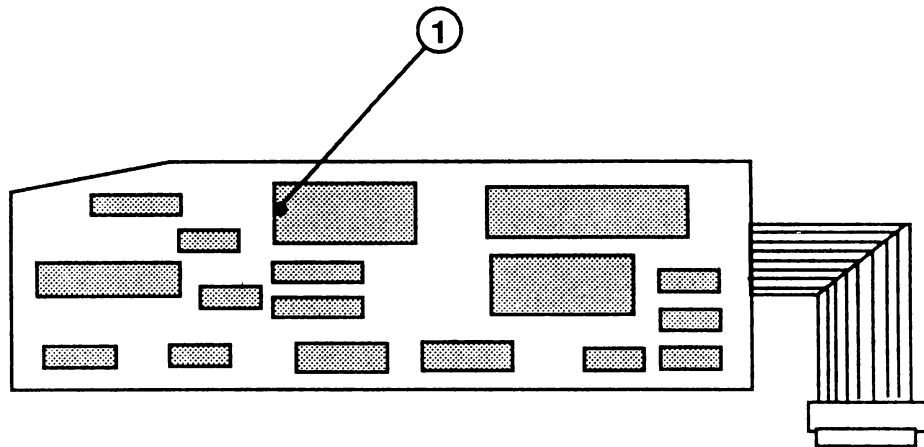

FIGURE 5
- IPL.7 SCSI Interface Card (Figure 5)
□ **SCSI INTERFACE CARD (Figure 5)**